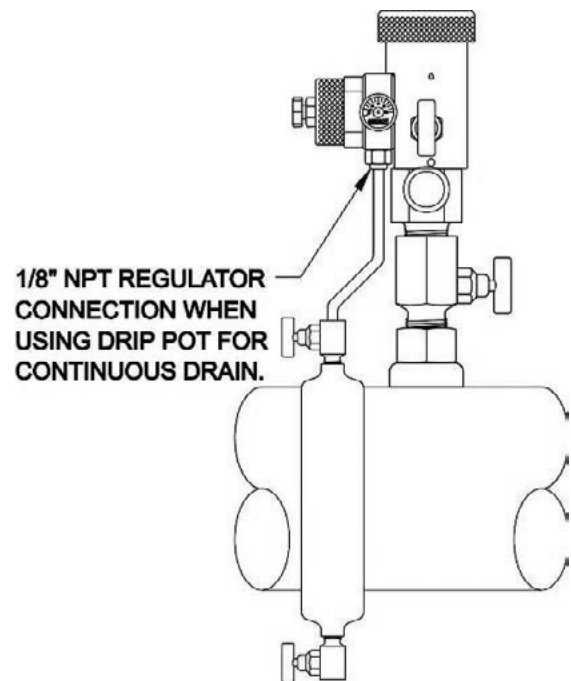

Figure 6: High Capacity Regulator Drain
1.2 High Capacity Regulator Drain (Refer to Figure 6)